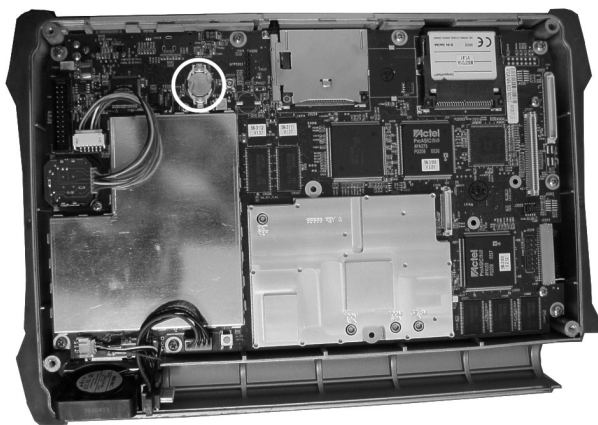

Figure 3-8. Real Time Clock (RTC) Battery
1. Refer to Figure 3-8 for the location of the RTC battery (circled). Refer to the parts list in Table 1-3, “List of Replaceable Parts” on page 1-5 for the replacement part number. Note that on newer model instruments, the RTC battery is soldered onto the mother board, and in this case, Anritsu Company recommends that the RTC battery NOT be replaced in the field.